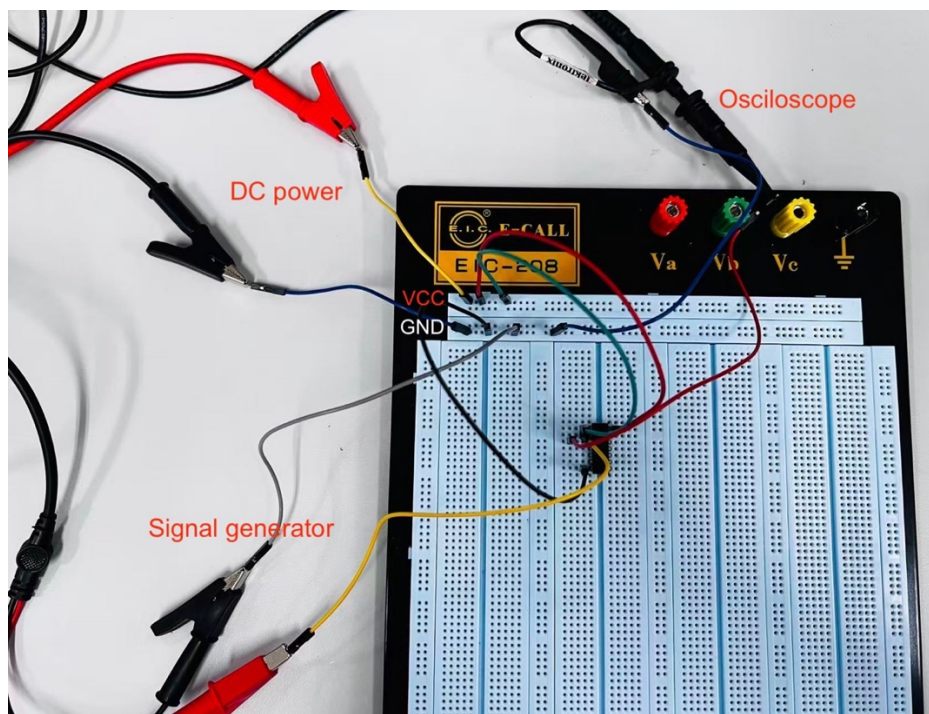
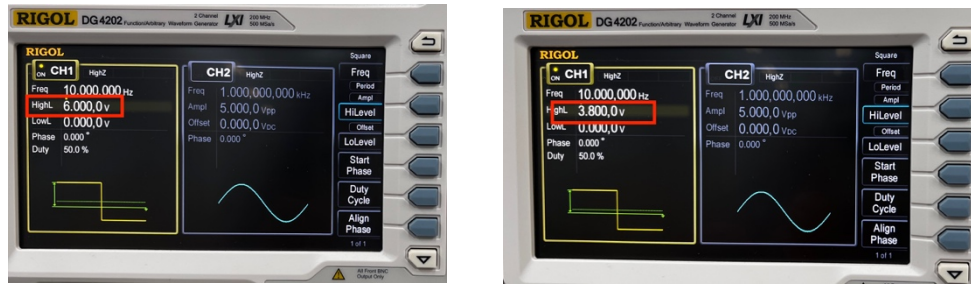
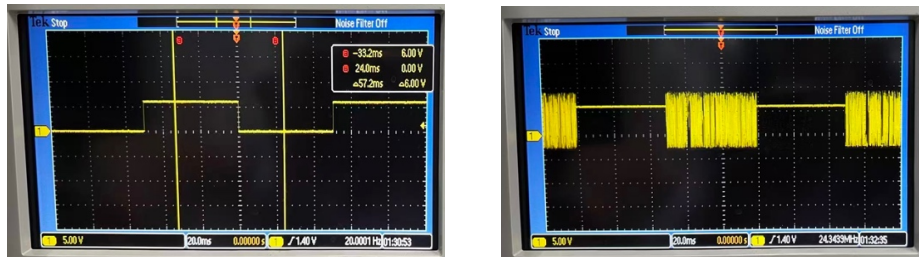

Figure 10. Illustration of the connections
Figure 11. Gradually reduce the level of high voltage
Figure 12. Stable and unstable output
(2) Connect the DC power supply, signal generator, and oscilloscope (CH1 for 1B and CH2 for 1Y) into the circuit. An example is shown in Figure 10. Set $V_{CC}=6.0V$ in the power supply. DO NOT output now.
(3) Use the signal generator to output a 10 Hz square wave, with 6.0V representing "1" and 0V representing "0". When configuring the wave, ensure you set the High level to 6.0V and the Low level to 0V.
(4) Output power supply and the signal generator. Measure the observed input and output in the oscilloscope.
(5) Gradually reduce the level of high voltage of the wave sequence at appropriate steps, e.g., 0.1V (ref. Figure 11) and reach a point where the unstable reading occurs. Record the unstable wave image and voltage at this high level (Ref. Figure 12 for stable and unstable wave forms).
(6) Reset high voltage to 6.0V. Gradually increase the level of low voltage at appropriate steps, and reach another unstable reading. Record the unstable wave image and voltage of this low level.